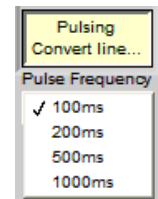

Figure 33. Pulse Frequency Selection
- **Pulse Convert line** controls pulse frequency, as shown in Figure 33. You can choose from one of four pulse frequencies: 100 ms, 200 ms, 500 ms, and 1000 ms.